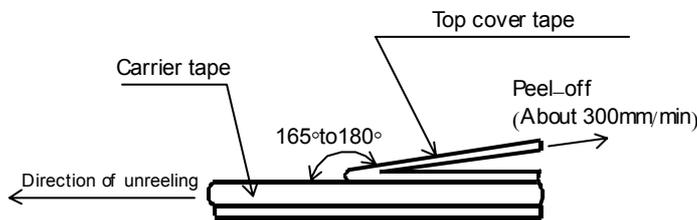

Figure-11
- 5). The peel strength of the top cover tape shall be with in 0.1N to 0.5N on the test method as shown in the following Figure-11.